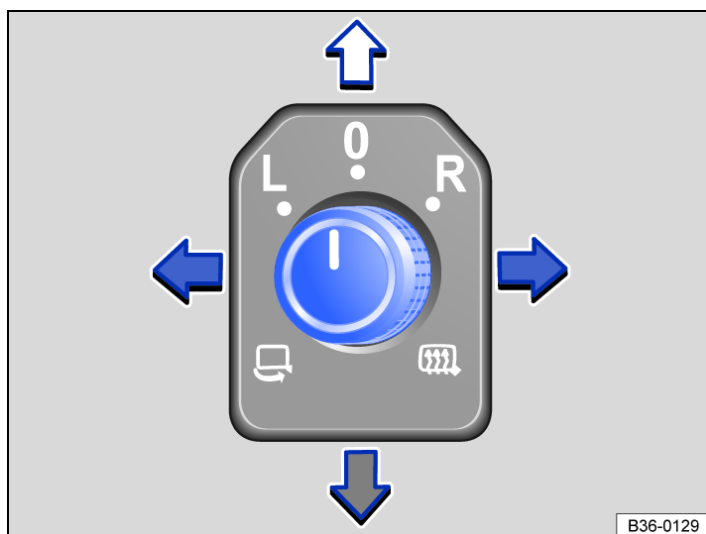

Fig. 1 In the driver door: rotary knob for the exterior mirrors.
- Turn the rotary knob in the driver door to the desired symbol → *Fig. 1*.